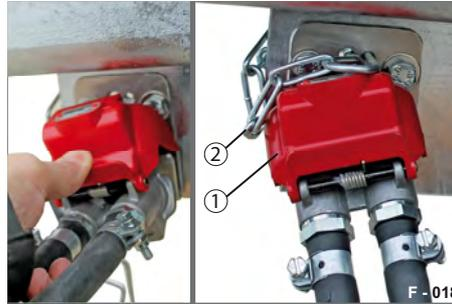

Fig. 24 Duo-Matic, parked
- ▶ Insert the spring pin (Fig. 24/2) into the bore holes.